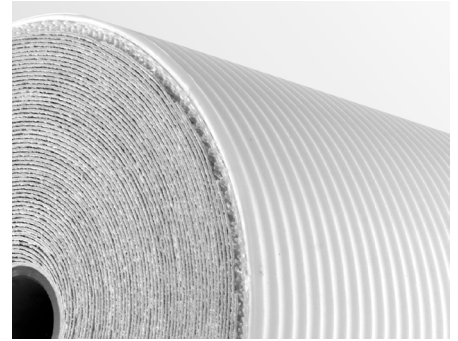

**Figure 1: Feed Flow vs Pressure Drop**
- Improved hydrodynamics through the element, compared to mesh wrapped, which results in energy savings (see figure 1) and more efficient processing and Clean In Place (CIP).